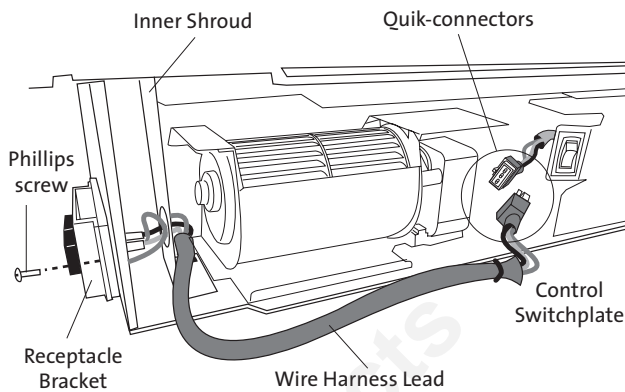

Figure 10. Routing the AC wire harness leads.
2. Insert the AC power receptacle lead through the appropriate inlet in the side of the firebox. See fig. 10. Remove the #8 x 5/8" phillips screw already in place and engage the receptacle bracket with the tab in the inlet opening. Reinstall the screw.